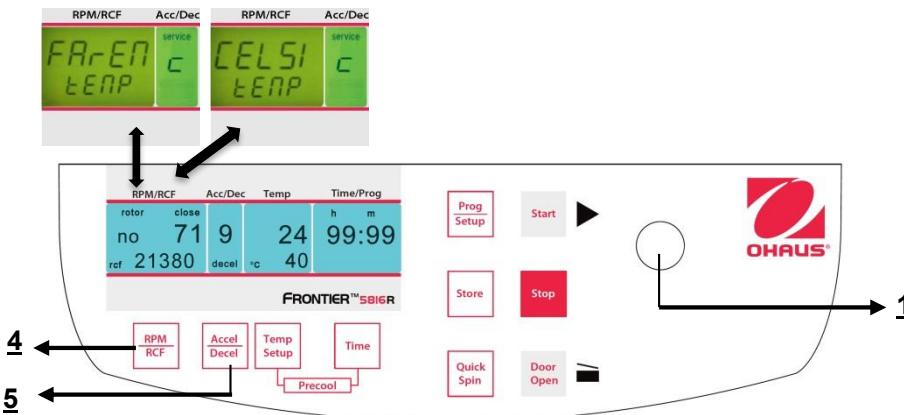

Figure. 31
the word "**CELSI**" flashes and you can change the display into Fahrenheit "**FAREN**", with the adjusting knob (1) (See figure 31).